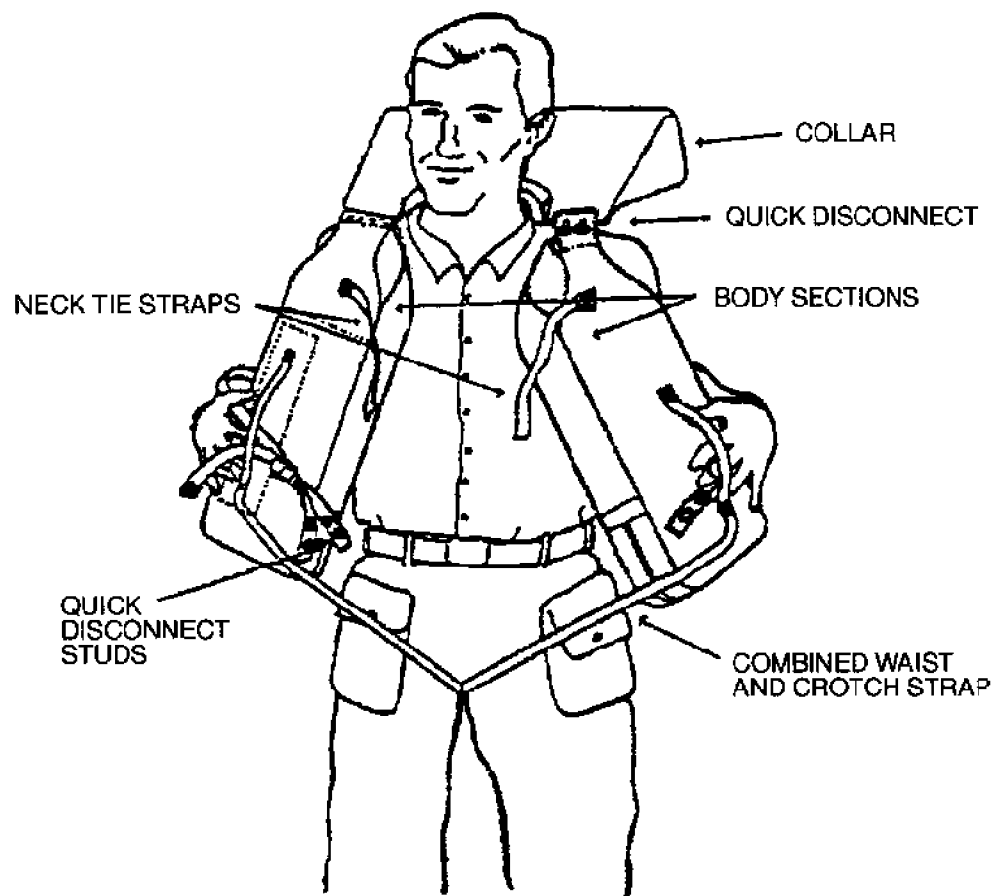

Figure 077-2-5. Yoke Type Life Preserver
077-2.2.4 YOKE TYPE. The inherently buoyant yoke type life preserver is illustrated in Figure 077-2-5. This life preserver provides 50 pounds of buoyancy. The primary use of this type of life preserver is for pack carrying troops in amphibious operations. The life preserver is worn around the neck and can be removed with one hand without affecting the backpack.
2. Place life preserver around the neck and bring down in front, as shown in Figure 077-2-5.